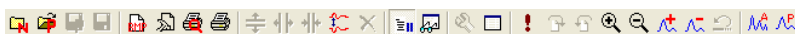

Figure 3.1.2 Tool Bar
3. **Tool Bar** is composed of a series of buttons (Figure 3.1.2), every button represents one common function. Although these commands are already included in the menu commands, it is much more